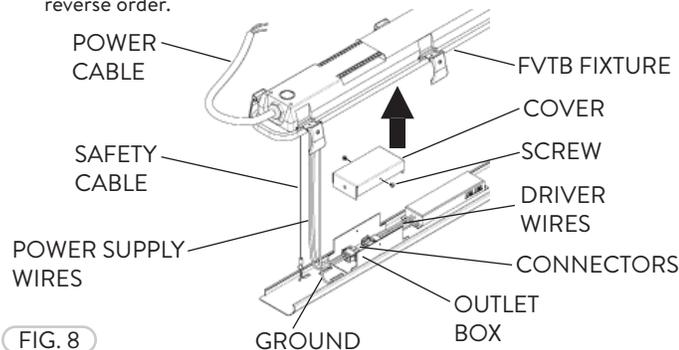

FIG. 8
- 3 Attach the Power Wires to the FVTB Driver Wires through the Outlet Box (Fig. 8). Reinstall the Outlet Box, Lens, and Led Panel in the reverse order.